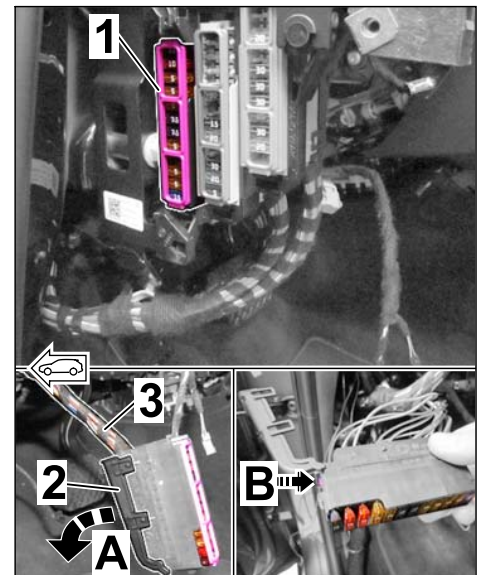

Figure 32
2.6.2 Release fuse strip A (black) using a screwdriver and remove it by pulling it to the rear and out of the fuse carrier (A-pillar area) (\Rightarrow *Figure 32*).
Open secondary lock on fuse strip A (black) (\Rightarrow *Figure 32-B-*).